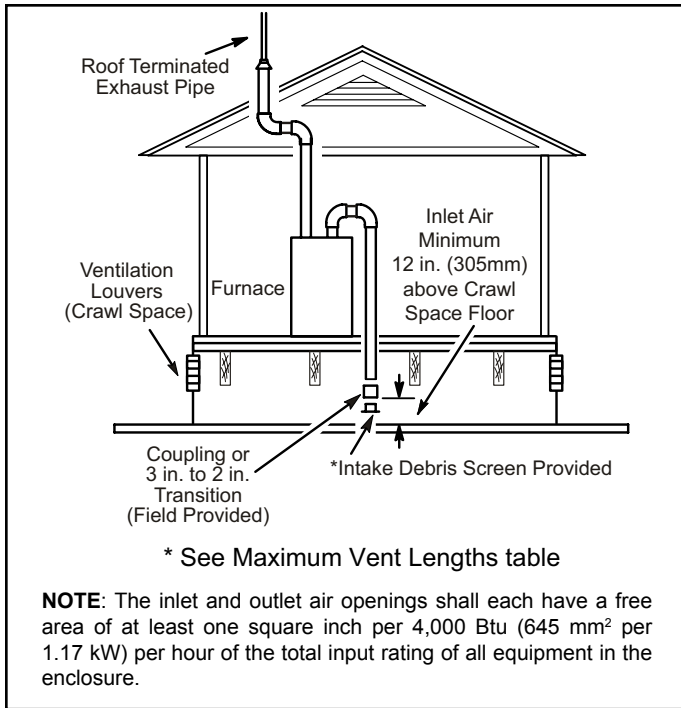

Figure 32. Equipment in Confined Space (Inlet Air from Ventilated Crawl Space & Outlet Air to Outside)
2. If intake air is drawn from a ventilated attic (Figure 31) or ventilated crawlspace (Figure 32) the exhaust vent length must not exceed those listed in Table 5B or Table 6C. If 3" diameter pipe is used, reduce to 2" diameter pipe at the termination point to accommodate the debris screen.